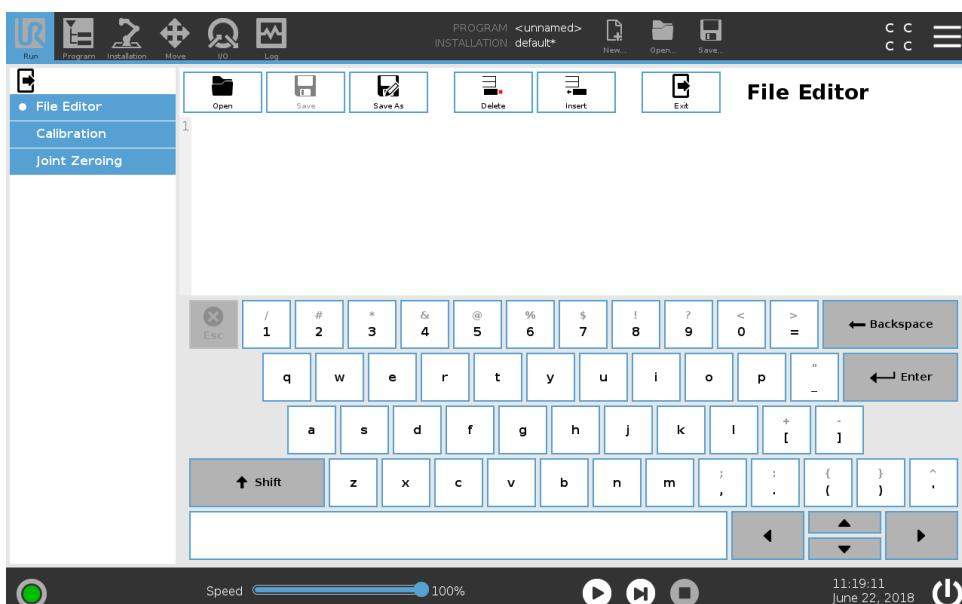

Figure 2.7: Select **Calibration** in Expert Mode.
- (12) In the Side Menu on the left, tap **Calibration**. See Figure 2.7.